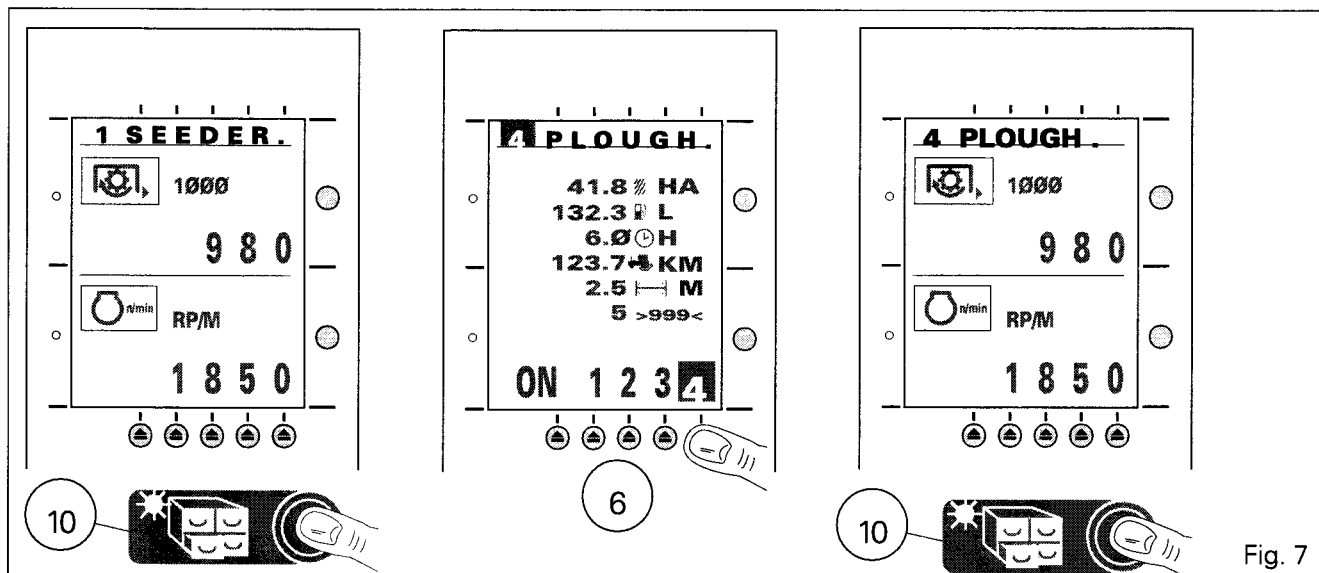

Fig. 7
Press the memory key 10 (fig. 7), then press the key 6 corresponding to the memory that you want to use for your work; *the selection appears in grey*.